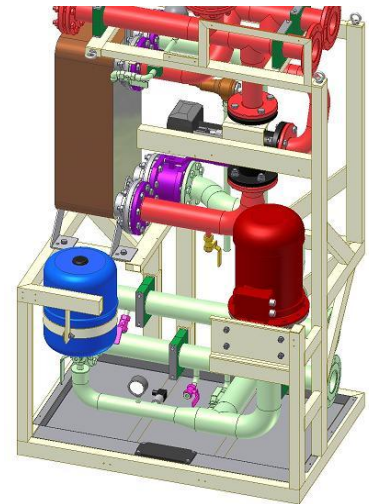

Figure 4.2-2
1. Drain both the primary circuit and the secondary circuit. The secondary circuit is drained through the V231 valve (marked yellow in Figure 4.2-2). The primary circuit is drained through the valves V230 and V232 (marked magenta in Figure 4.2-2).
5. Disconnect the primary and secondary circuit flange connections (marked violet in Figure 4.2-2) from the unit.